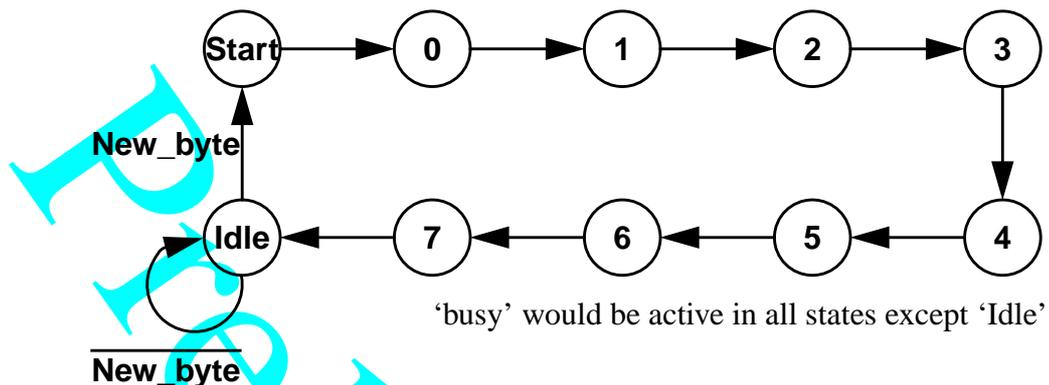

Figure 0.12: UART transmitter state diagram
Firstly let’s look at the job of the transmitter. This serialises bytes as they are supplied, each bit being shifted at a predefined rate (the bit rate) – as closely as the transmitter can judge. In addition to this the transmitter must append the start and stop bits. Serialisation can be done in software but is normally uses dedicated hardware in the form of a simple Finite State Machine. This FSM stays in its idle state until a byte is written to it; it then **shifts** this out before returning to the idle state again (fig. 0.12). To prevent the next byte arriving before the current byte is completely transmitted it is usual to include some sort of **busy** signal to prevent this.
- Reference to figure 0.12 shows that the state machine progresses through ten states. The only choice is that it can be *disabled* from counting in one of these states.
- State numbering is arbitrary; for example the state machine does not have to code state “5” in figure 0.12 as “0101”.